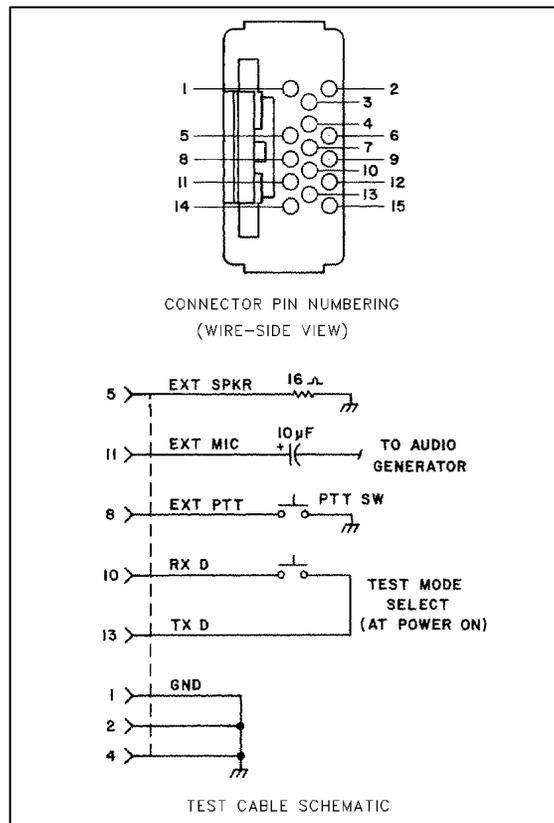

Figure 8-1 Test Cable Fabrication
- b. A test cable should be fabricated to allow signals to be injected and measured at the accessory connector. A diagram of this cable is shown in Figure 8-1. The connector is available in Connector Kit, Part No. 023-5810-109.
- c. Connect a test cable similar to the one shown in Figure 8-1 to the accessory connector.